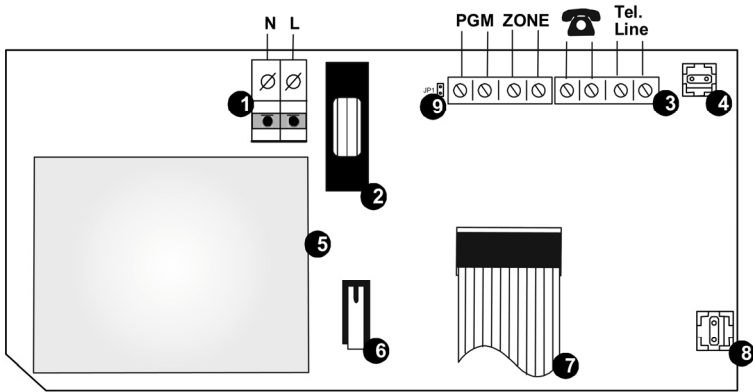

Figure 2: Power Supply and Connections Board
5. In case of using Wired Zone, PGM and Telephone/Line, connect the following to their connectors on the Main Board terminal block (**Figure 2**)